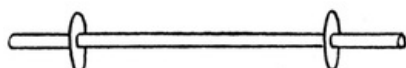
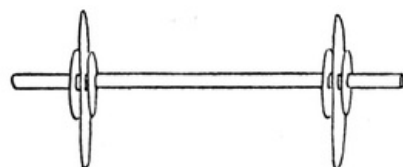

FIG. 5a
FIG. 5b
(2) The axle can be glued to the bottom of the cart and the wheels left free to revolve. The wheels are kept in their places by the following plan. Cut some small cardboard washers, seccotine one near each end of the axle as in Fig. 5a, taking care that they do not come under the cart. Slip on the wheels, taking care that the centre hole is punched large enough to allow the wheel to revolve freely. This will be the case if a steel meat skewer (size about 7 inches long) has been used to make the holes. Fix washers outside the wheels to keep them on, as in Fig. 5b. These washers keep the wheels from sagging.